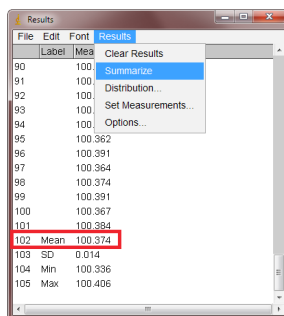

Figure 4
5. Calculate the mean of the 100 frame means by selecting Summarize in the Results menu (Figure 4).